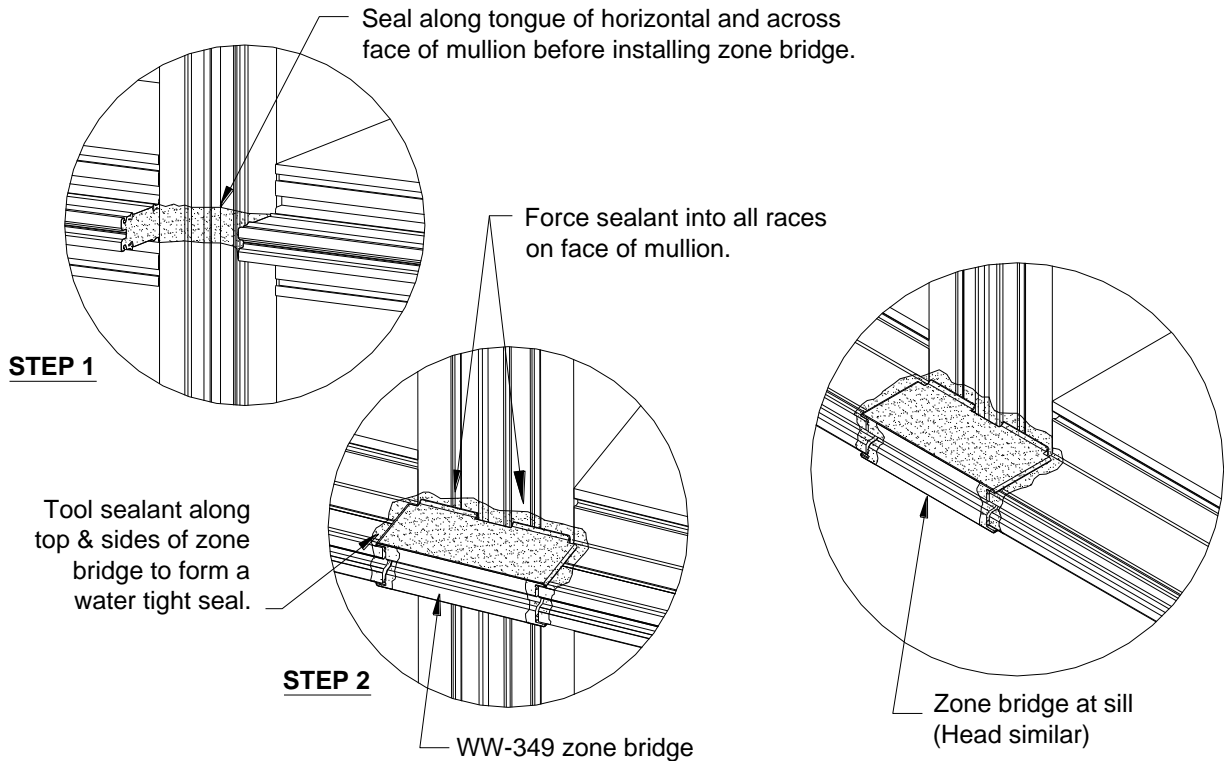

Figure 20: Zone Bridge Installation - SSG Mullions
- 6.8 At SSG mullions, apply sealant to all contact surfaces on vertical and horizontal mullions where zone bridges will be installed. Apply sealant to horizontal tongue receptor on zone bridge and install at the end of each horizontal, head and sill members. Tool any excess sealant around front end of zone bridge where the thermal isolator runs through. Tool sealant in the glazing pockets to ensure a watertight fit. **See FIGURE 20 (page 23).**